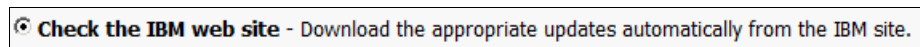

Figure 9-65 Checking the IBM website for updates
5. Accept the default **Check the IBM web site**, as shown in Figure 9-65. Click **Next**.